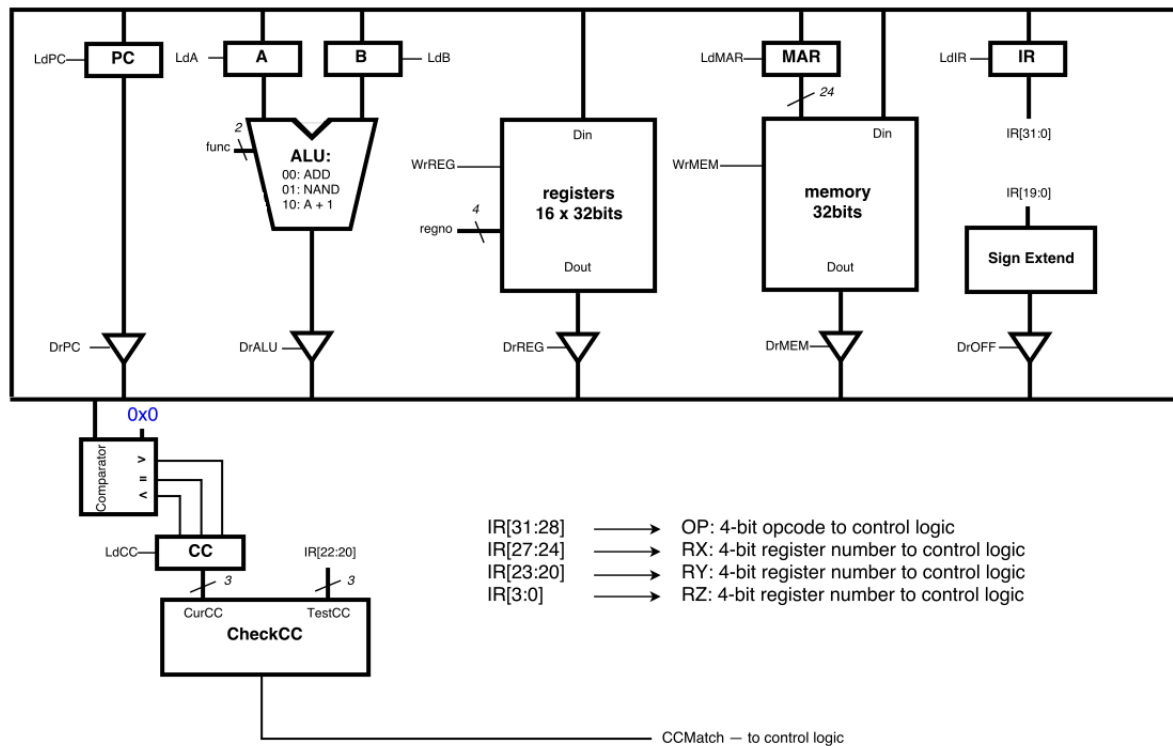

Figure 1: Datapath for the LC3-2200a Processor
2. Using Brandonsim, implement the LC3-2200a datapath. To do this, you will need to use the details of the LC3-2200a datapath defined in Appendix A: LC3-2200a Instruction Set Architecture. You should model your datapath on Figure 1.
To implement the BR instruction, you need to design and implement the CheckCC module indicated in Figure 1. The CheckCC module takes as input the current condition codes from the CC register, as well as the N, Z, and P bits from the instruction. The module then uses combinational logic to produce the CCMATCH bit for your control logic.
2. Implement the Microcontrol Unit using Brandonsim. The appendix contains all of the necessary information. Take note that the input and output signals on the schematics directly match the signals marked in the LC3-2200a datapath schematic (see Figure 1).
3. Connect the completed control unit to the datapath you implemented in Phase 1. Using Figures 1 and 2, connect the control signals to their appropriate spots.